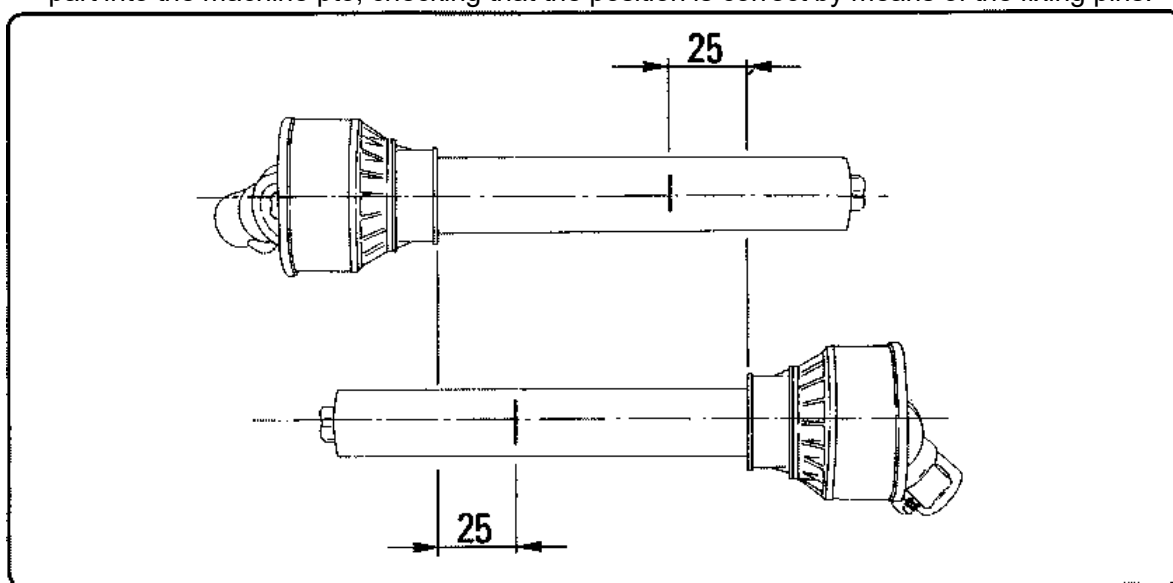

fig. 4.3.1
- Using a felt-tip pen, matchmark the place where the two halves must be shortened, measuring 25 mm from the beginning of each half, as shown in fig. 4.3.1.